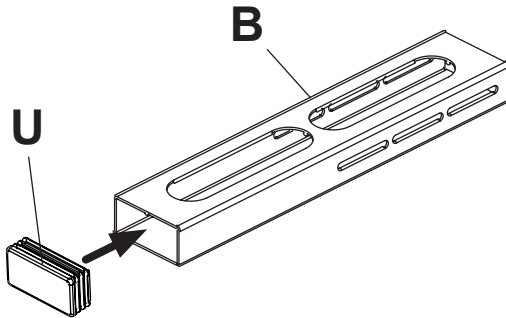

FIGURE 9.1
- 9** Snap extension cap (U) into extension bracket (B) in orientation as shown in figure 9.1.